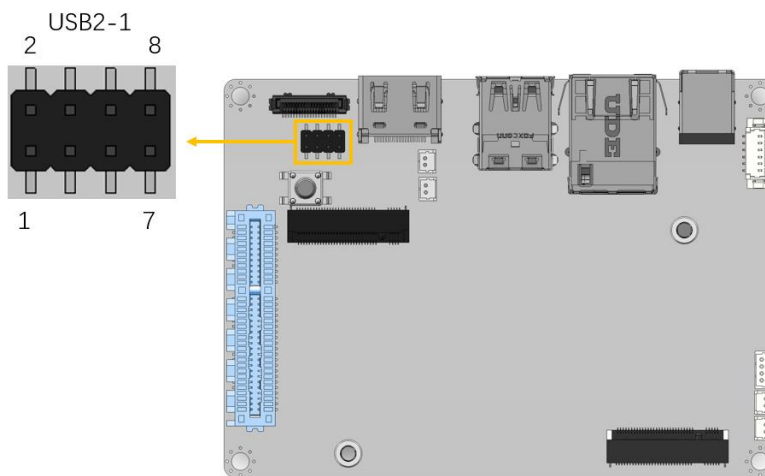

Figure 3-7: Internal USB 2.0 Connector Location
- CN Location:** See Figure 3-7